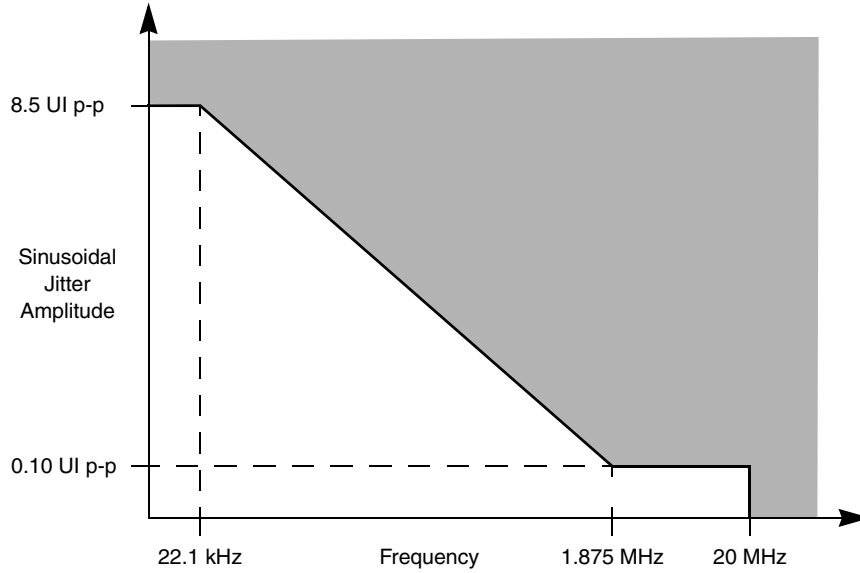

Figure 18. Single Frequency Sinusoidal Jitter Limits
2. Total jitter is composed of three components, deterministic jitter, random jitter, and single frequency sinusoidal jitter. The sinusoidal jitter may have any amplitude and frequency in the unshaded region of <a href="#">Figure 18</a> . The sinusoidal jitter component is included to ensure margin for low frequency jitter, wander, noise, crosstalk, and other variable system effects.
Notes: 1. See <a href="#">Figure 18</a> for single frequency sinusoidal jitter limits 2. Each UI is 800 ps $\pm$ 100 ppm.
Notes: 1. Measured at receiver. 2. Refer to RapidIO™ 1x/4x LP Serial Physical Layer Specification for interpretation of jitter specifications. Also see <a href="#">Figure 18</a> . 3. Each UI is 800 ps $\pm$ 100 ppm.